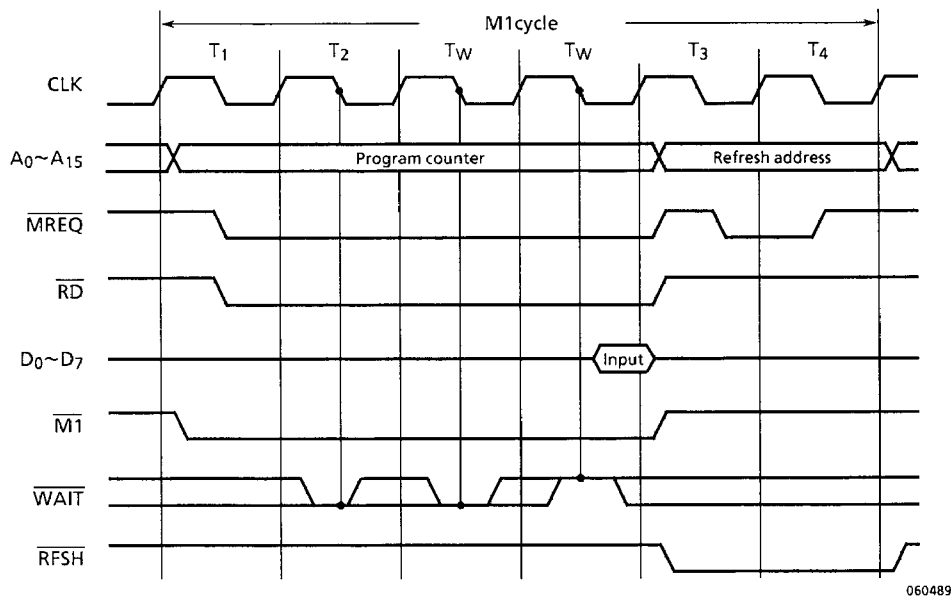

Figure 3.12 Opcode Fetch Timing Including Wait State
In clock state T1, the content of the program counter is put on the address bus. The  $\overline{M\bar{I}}$  signal goes "0", indicating to the MPU that this is the Opcode fetch cycle. At the same time,  $\overline{MRE\bar{Q}}$  and  $\overline{R\bar{D}}$  signals go "0". When the  $\overline{MRE\bar{Q}}$  signal goes "0", the address signal has already been stabilized. Therefore, this signal can be used for the memory chip enable signal. The  $\overline{R\bar{D}}$  signal indicates that the MPU is ready to accept the data from memory. By these signals, the MPU accesses memory to fetch the Opcode in the instruction register. The MPU samples the  $\overline{W\bar{A}\bar{I}\bar{T}}$  signal on the falling edge of clock state T2. If the  $\overline{W\bar{A}\bar{I}\bar{T}}$  signal is "0" on the falling edge of clock state T2 and the following wait state (TW), the next state becomes clock state TW. Figure 3.12 shows the delay state of the Opcode fetch cycle caused by the  $\overline{W\bar{A}\bar{I}\bar{T}}$  signal.